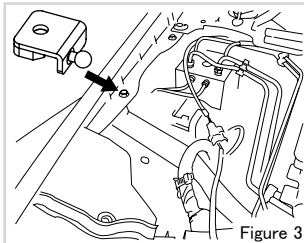

Figure 3
- Install the fender bracket to the vehicle at the specified torque (see figure 3).